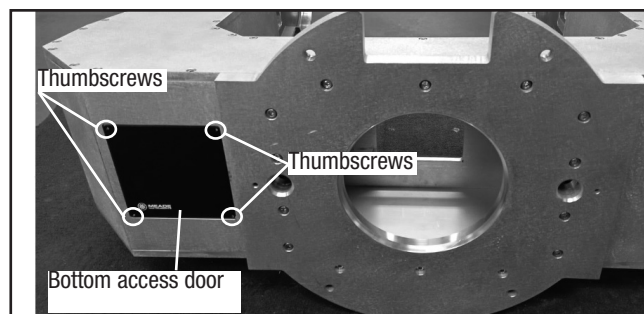

Fig. 38: Remove the four thumbscrews at bottom of left fork arm.
4. There is another rectangular plate on the bottom side of the left fork arm as shown in Fig. 38. It is attached using four thumbscrews and allows access to route the StarLock and focuser/12v wire harnesses. Locate this bottom access door and remove the thumbscrews and plate.